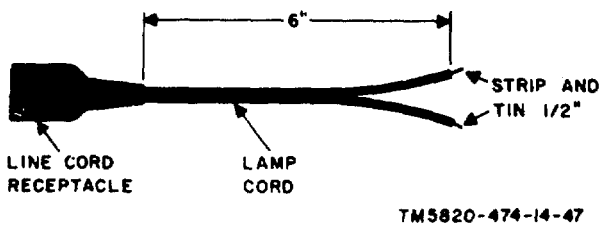

Figure 47. Test cable No. 2, construction details.
b. *Test Cable No. 2* (fig. 47). Test cable No. 2 is used to connect the secondary of the step-up transformer to the ac input power cable when either power supply is tested. One cable is required.